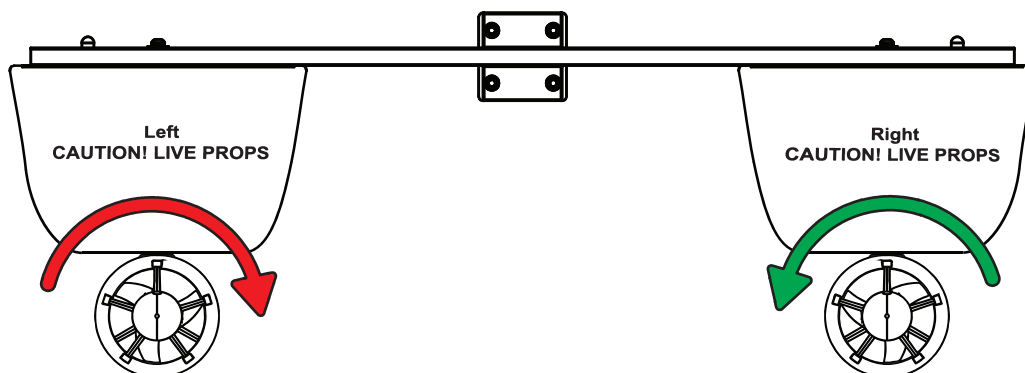

Figure 25: Hydron™ RCV Prop Rotation
- Motor must rotate clockwise(CW) (Figure 25)
- Motor must rotate counter-clockwise(CCW) (Figure 25)